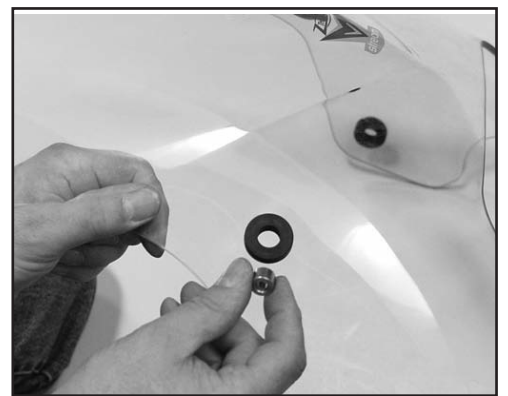

Figure 7
1. Install one Grommet and one Bushing into each hole on the windshield. **Figure 7**